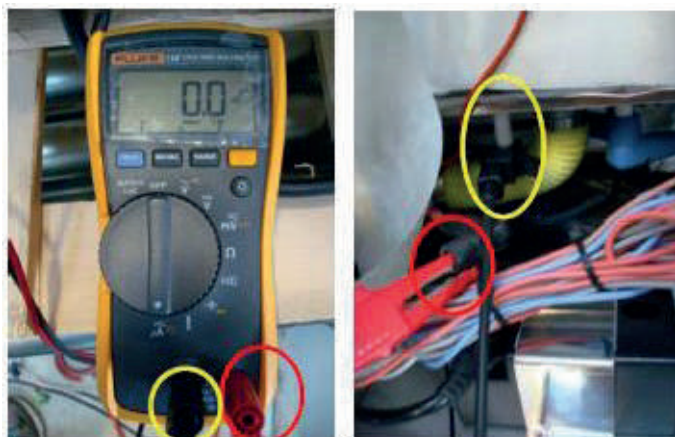

Figure 21
- Connect the multimeter in series as described above by means of the two cables with the crocodile clamp to one of the flame control electrodes and to one of the internal metallic part of the terminal of the cable, as shown in Figure 21;